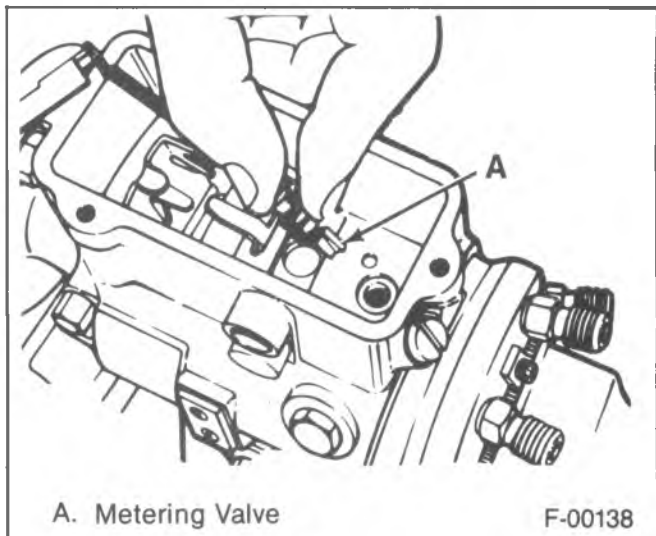

Figure 27—Metering Valve
3. Metering valve (figure 27)
10. Metering valve (figure 27).